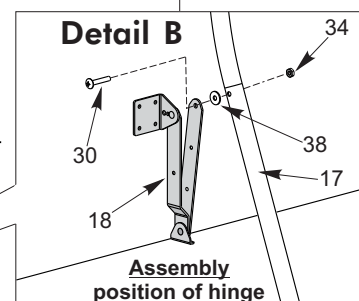

Figure 13
22. Attach Hinges (#18) to Strut Tubes (#17) as shown in **Figure 13** & **Detail B**. With hinge positioned as shown, align hole in hinge with hole in Strut Tube and attach with 1/4" Screw (#30), Plastic Washer (#38) and Locknut (#34). Plastic Washer (#38) goes between Strut Tube and Hinge. Tighten nut securely. Repeat for other Hinge. **CAUTION: Hinges must be positioned exactly as shown or table will not operate correctly and could be damaged.**